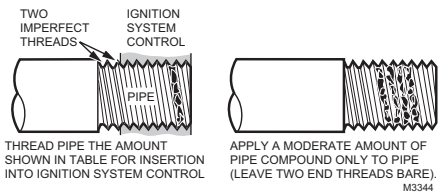

Fig. 5. Use a moderate amount of pipe compound.
2. Apply a moderate amount of good quality pipe compound to the pipe, leaving the two end threads bare, as shown in Fig. 5. For LP controls make sure to use an LP resistant pipe compound.